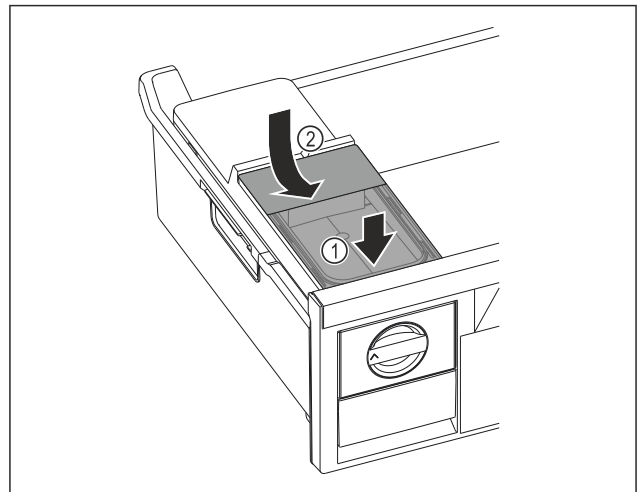

Fig. 129
- ▶ Position the water tank at the front. Fig. 129 (1)
- ▶ Lower the water tank at the rear. Fig. 129 (2)